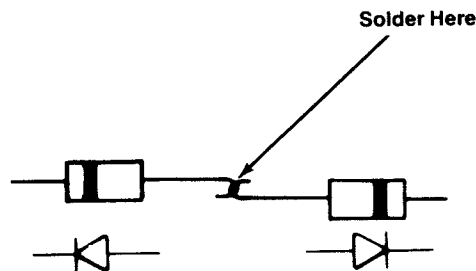

Figure 6 Type-1N754A and 1N756A Zener-Diode Connections
Perform the following procedure to modify the Wells-Gardner Deflection PCB (see Figures 6 and 7).
2. Connect two type-1N754A Zener diodes together, anode to anode, as shown in Figure 6. Use a soldering iron to solder the two anode leads together.